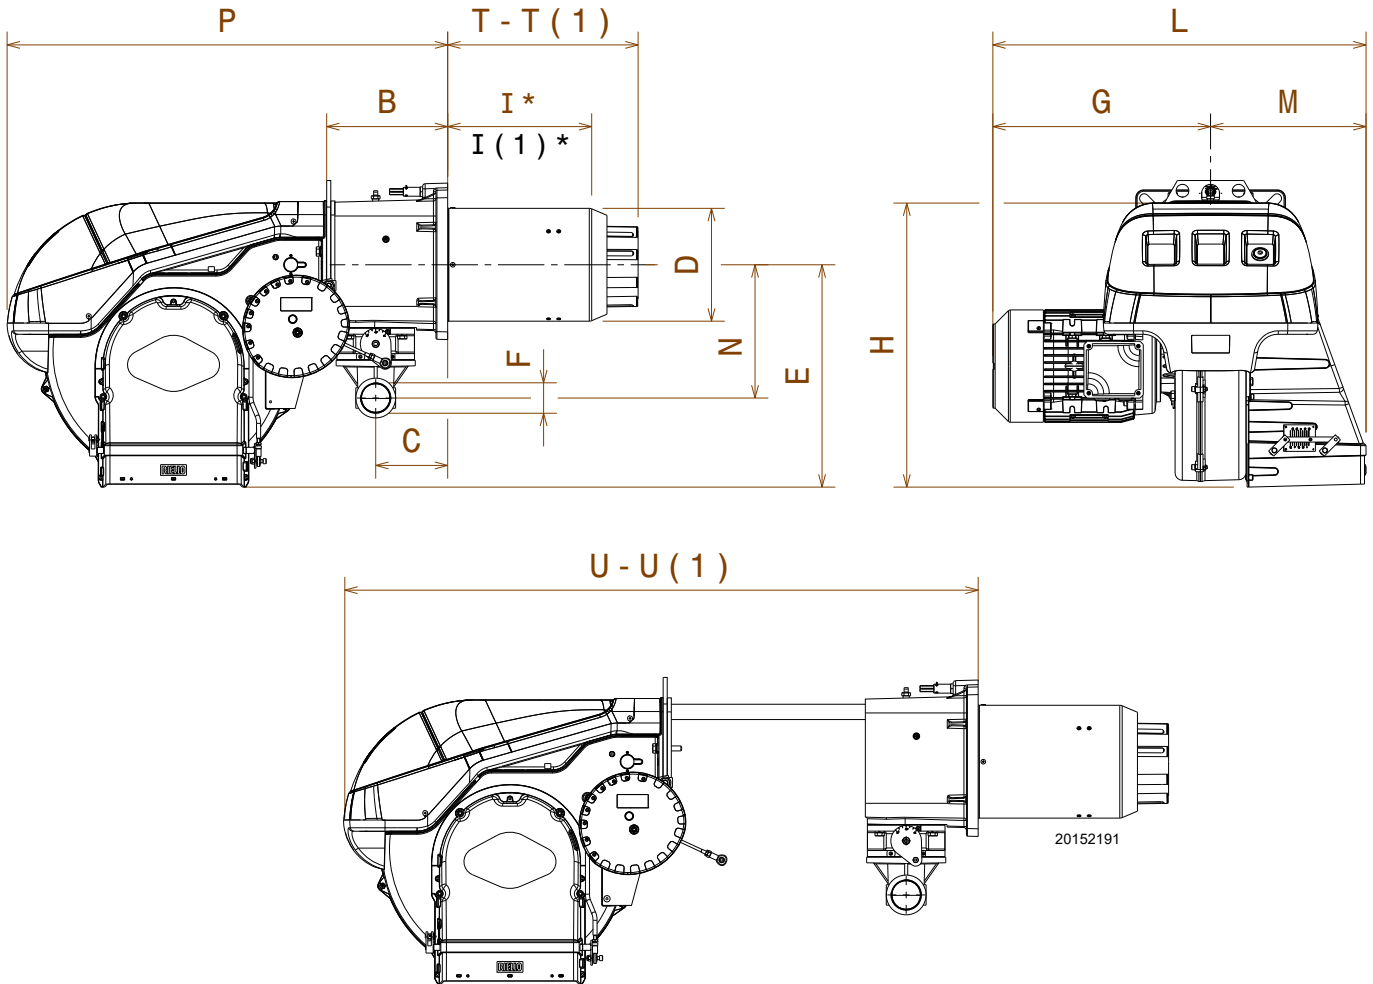

Fig. 1
The dimensions of the burner are given in Fig. 1.
* The maximum depth of the boiler door is referred to dimension "l" (Fig. 1 on page 10).